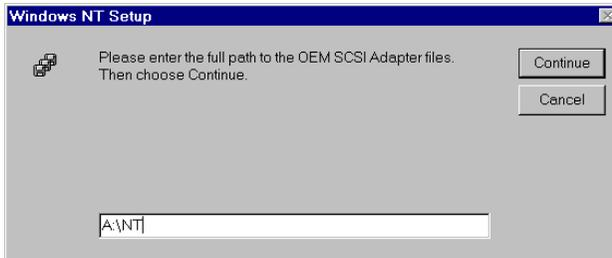

Figure 3-10. Confirm Diskette Driver Path
12. Again, be sure the path is A:\NT as shown in Figure 3-10 and click Continue.